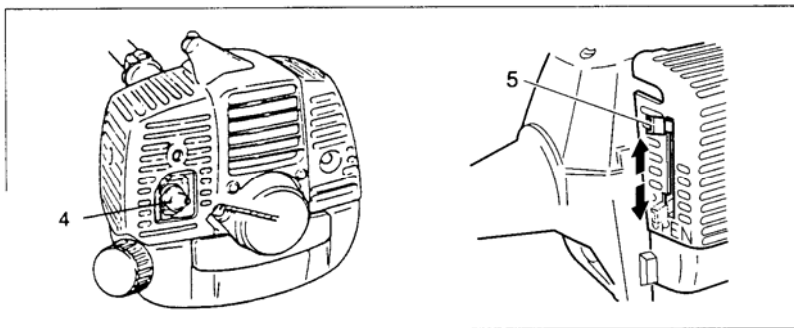

Fig. 2-2C
\*Push priming bulb (4) several times so that fuel flows through return pipe (5) (if so equipped)(Fig. 2-2C,3)
2. With the safety trigger (2) pressed (if so equipped), pull throttle trigger and push throttle lock (3), then slowly release the throttle trigger first, then the safety trigger. This will lock the throttle in the starting position.
3. Set choke lever to CLOSED position (4). (Fig. 2-2C,3)